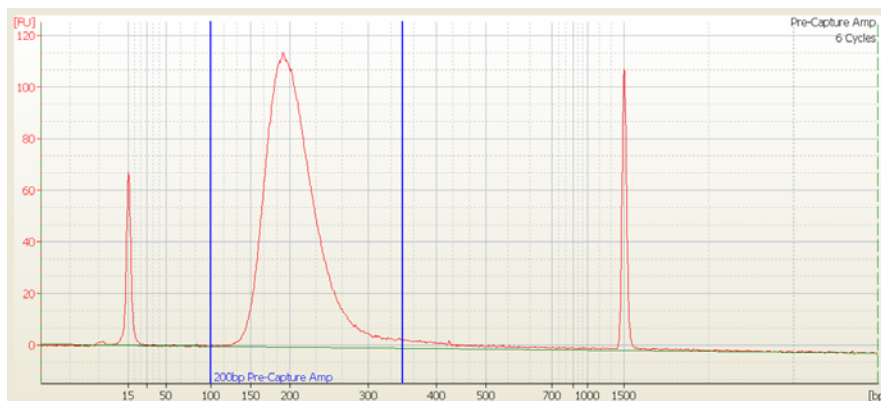

Figure 4 Analysis of amplified prepped library DNA using a DNA 1000 assay. The electropherogram shows a single peak in the size range of 200 bp.
- 3 Verify that the electropherogram shows an average DNA fragment size of about 200 bp. A sample electropherogram is shown in Figure 4.